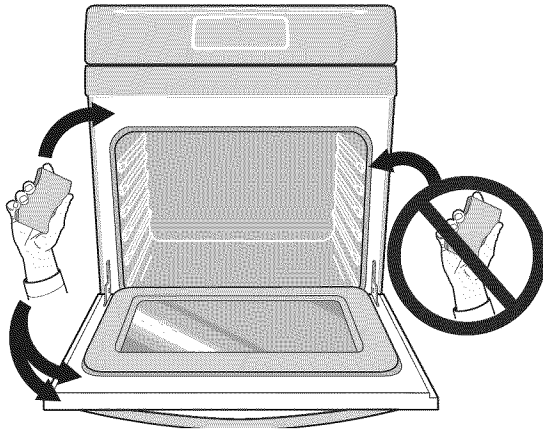

Figure 6: Do not rub or move the oven door gasket
- Before starting a self clean cycle, hand clean any soil from the oven frame, door liner outside the oven door gasket, and the small area at the front of the oven (Figure 6). These surfaces are not in the self cleaning area. Clean with soap and water. Burned-on residue can be cleaned off with a stiff nylon brush and water or nylon scrubber.